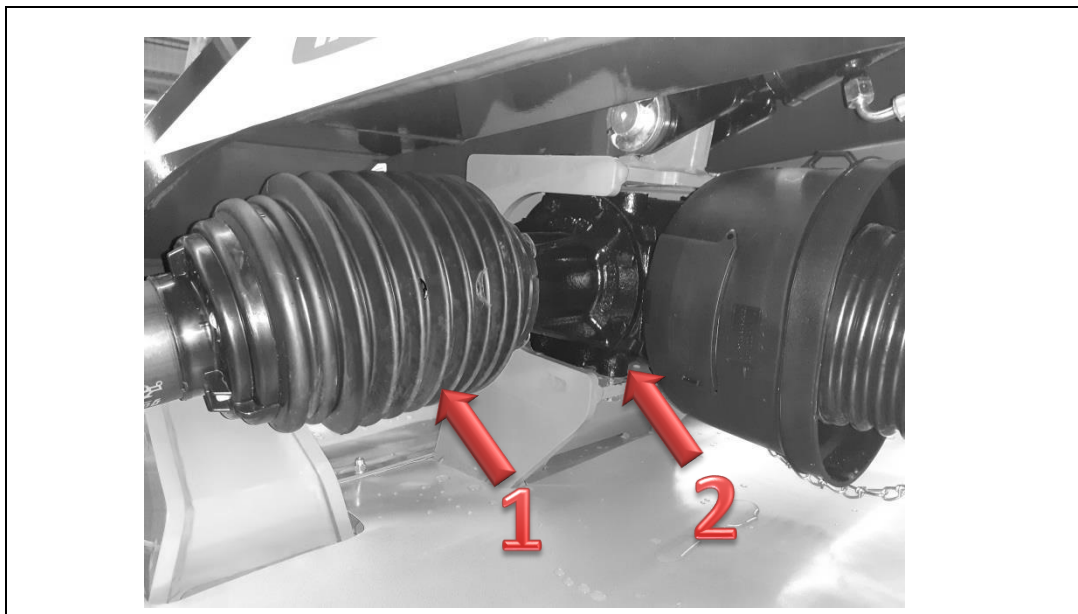
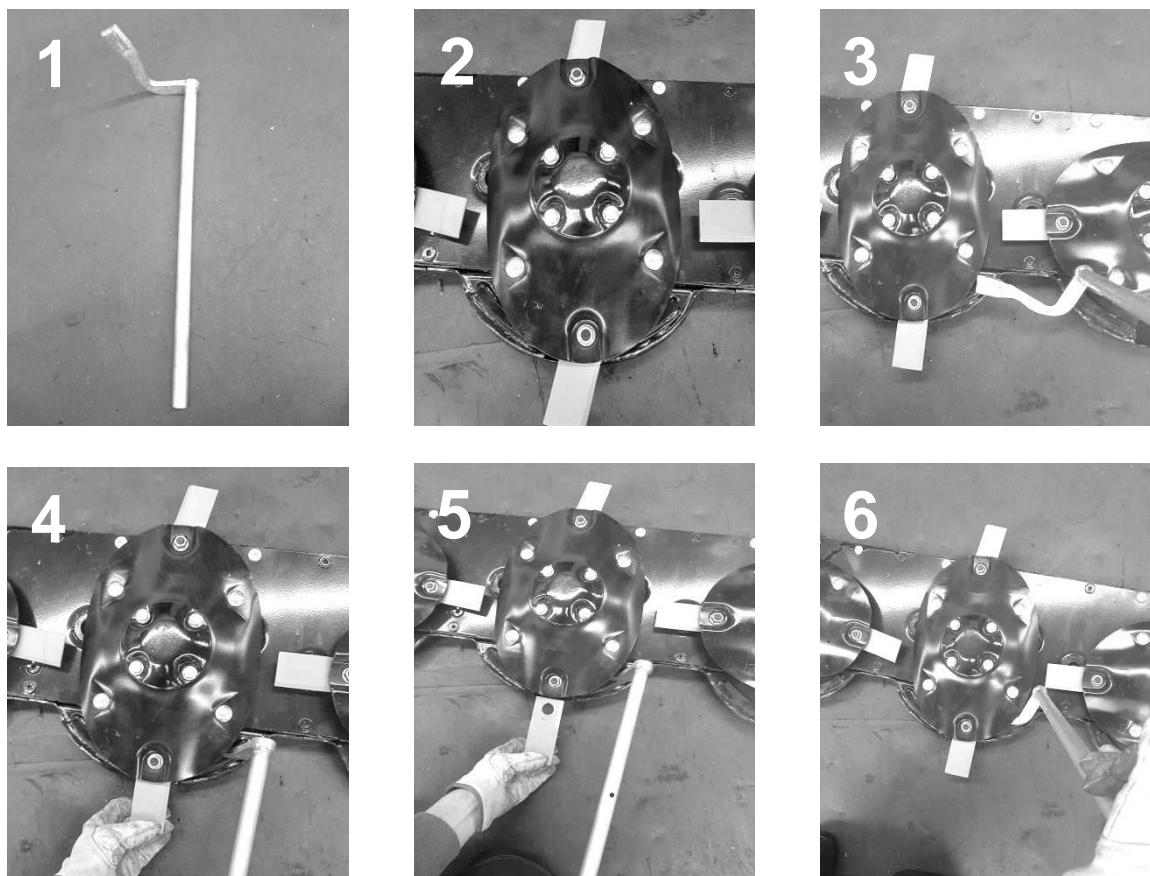

Fig.12 Removing the central gear unit
Fig.14 Checking, replacing and rotating the blade
1. Remove the PTO shaft from the central gearbox, (1) in Fig.12
2. Unscrew the eight M16x35 bolts, (2) in Fig. 12
4. Rotate the gear unit by 180 degrees as shown in Fig.12
5. Remove the PTO shaft guard, (1) in Fig.14, and swap its position with the position of the gear plug guard, (2) in Fig.12
6. Tighten the eight M16x35 bolts referred to in item 2.
7. Mount the PTO shaft on the central gear unit, (1) in Fig.12
Use the special tool, see Fig. 14, to replace or turn around a blade. Insert the tool, (1) in Fig. 14, between the top disc and the blade holder, keep moving the holder until there is enough clearance to remove the blade, (2) in Fig. 14. After checking the blade, (3) in Fig.14, the shank and the holder, see Fig.14, mount the blade, (4) in Fig. 14 by turning it around or replacing it with a new one.